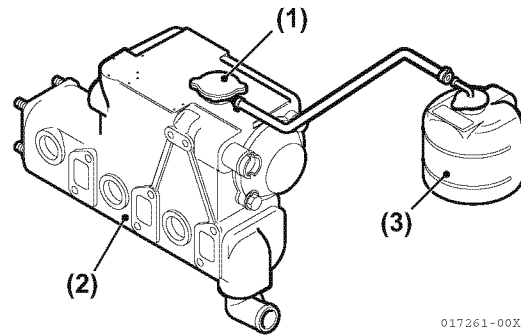

Figure 5-203
77. Fill with water in the coolant recovery tank until the level is between the full and low marks (Figure 5-203).